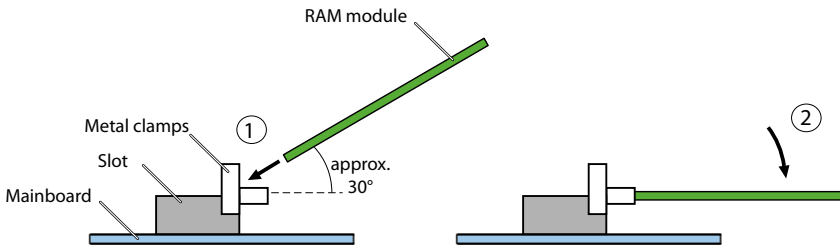

Fig. 81 Changing the RAM module
4. Place the RAM module at a slight angle into the slot (see Fig. 81).